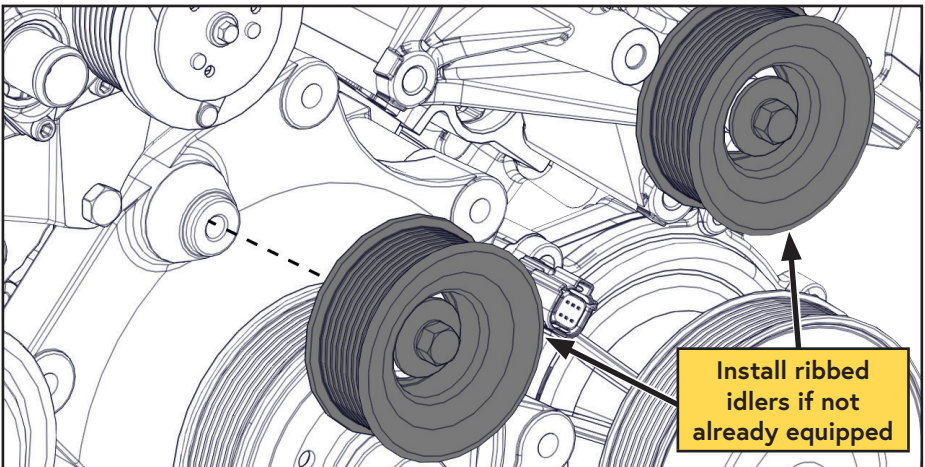

Figure 19 — Reinstall the idler
If the vehicle was equipped with smooth idlers in the locations shown, replace them with the VMAC supplied ribbed idlers (Figure 19).
- Reinstall the idler removed earlier (Figure 19).